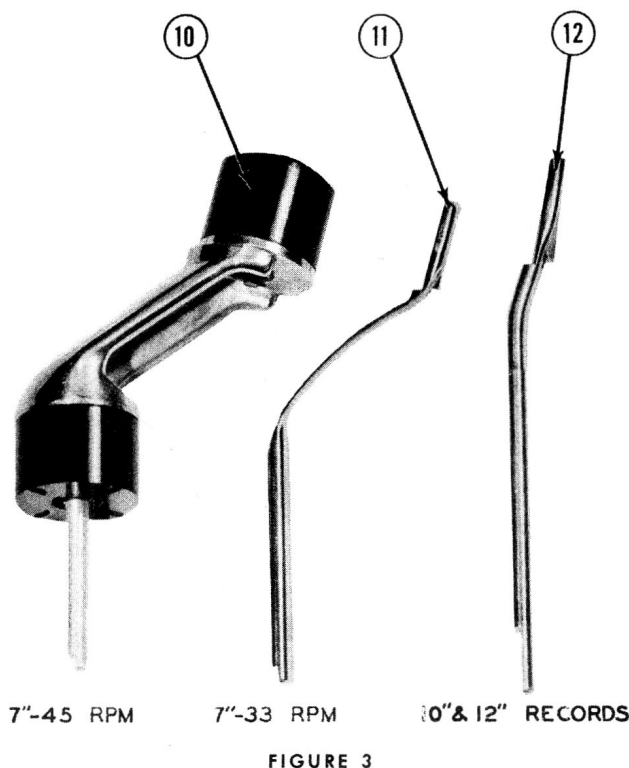

FIGURE 3
The center post (12), figure 3, used in playing 10" and 12" records, is longer and, when used, engages the discriminator lever (59). This engagement pivots the finger of the lever (59) clear of the ratchet lever (72), thus allowing this engagement of the ratchet arm (75) and lever (72), as described in the preceding paragraph. However, when 7" records are being played (33 or 45 R.P.M.), their spindles are shorter, which allows the discriminator lever (59) to stay in a raised position; therefore, as the tone arm swings in for set down, the ratchet arm lever (72) engages the finger of the discrimi-